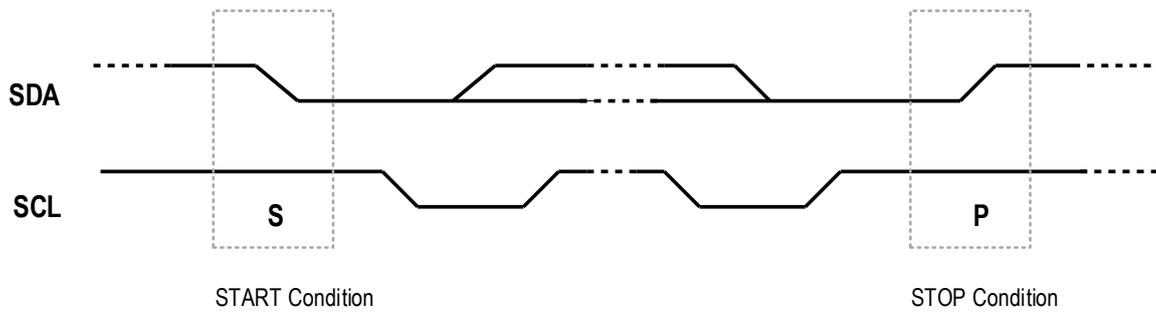

Figure 18. I2C START and STOP Conditions
In the procedures for the I2C bus, the START condition (S) is defined as a high to low transition on the SDA line while SCL is high and a STOP condition (P) is defined as a low to high transition on the SDA line while SCL is high, see Figure 18.